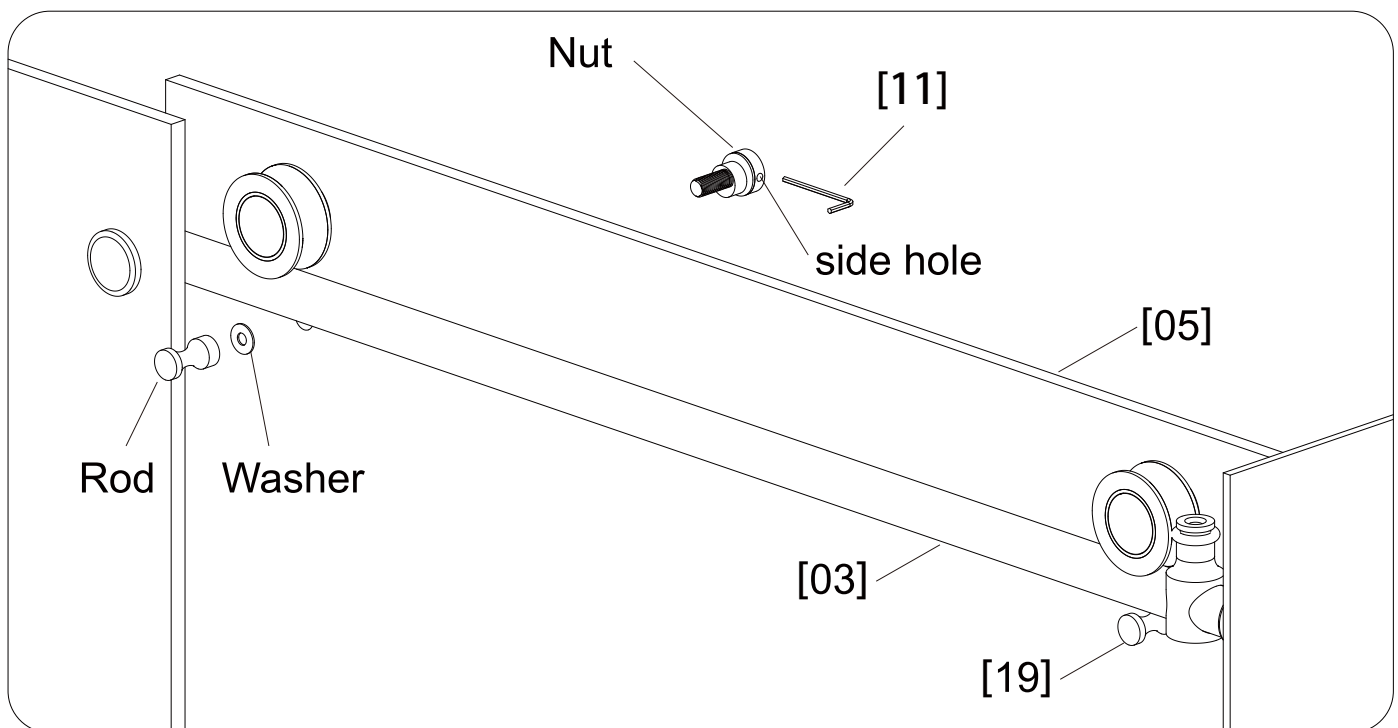

Fig 9
1. Disassemble the **Roller Guards [19]** and install it to the **Door [05]** as the figure shows. (Fig 9)